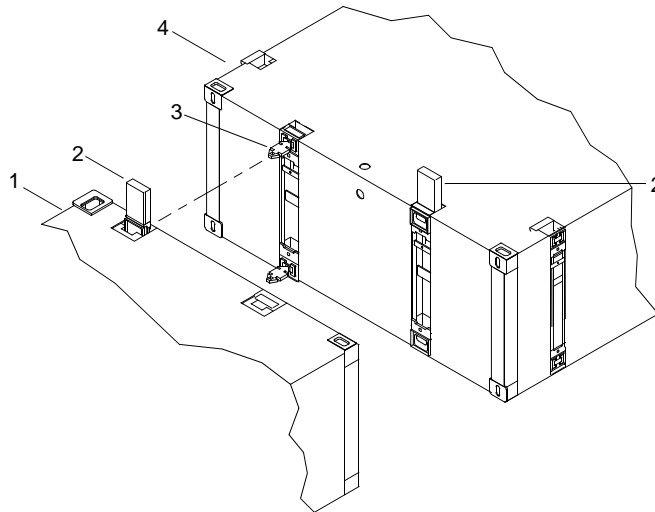

Figure 11. Aligning Male and Female Connectors
3. Position end rake module (figure 11, item 1) so that female connectors (figure 11, item 2) align with male connectors (figure 11, item 3) on center module (figure 11, item 4).